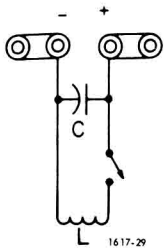

Figure 4-9. Inductance measurement by the parallel-substitution method.
a. Connect the unknown inductor and the capacitor in parallel (Figure 4-9).